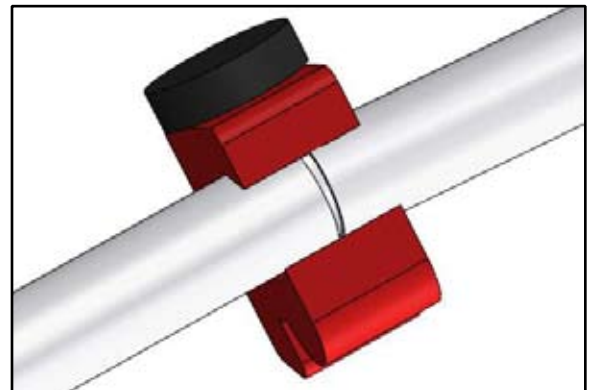

Figure E2
- 3) Twist the cutter around the tube several times. Tighten the wheel a little and twist the cutter several times. Continue to do this until the tube is cut in two pieces (Figure E2). This could take five to 10 times.